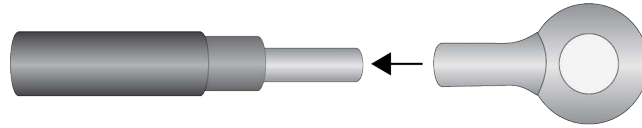

Figure 42. Sliding the Ring Terminal Lug on the Grounding Wire
- Slide the ring terminal lug over the stripped wire on the grounding wire. Refer to Figure 42.